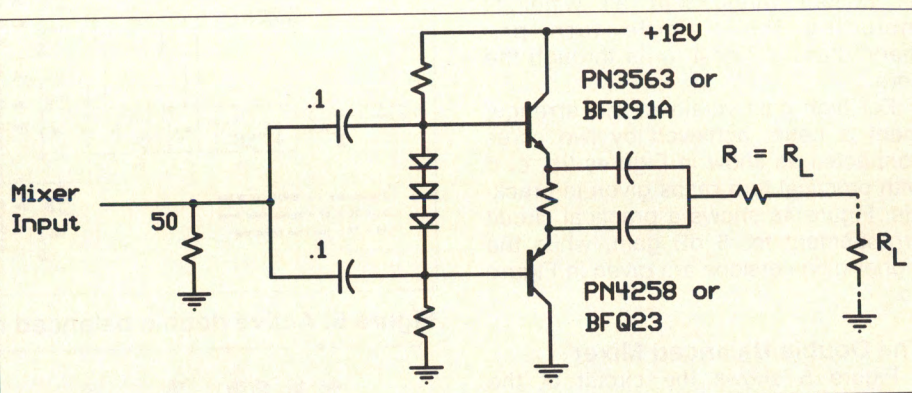

Figure 6. Buffer.
For cases where the mixer output termination is reactive, such as a crystal filter, a buffer may be required. Figure 6 shows a suitable circuit which is a complementary emitter follower (7). The mixer is thus loaded with 50 ohms and the filter also sees 50 ohms or other required load by adjustment of the emitter current.